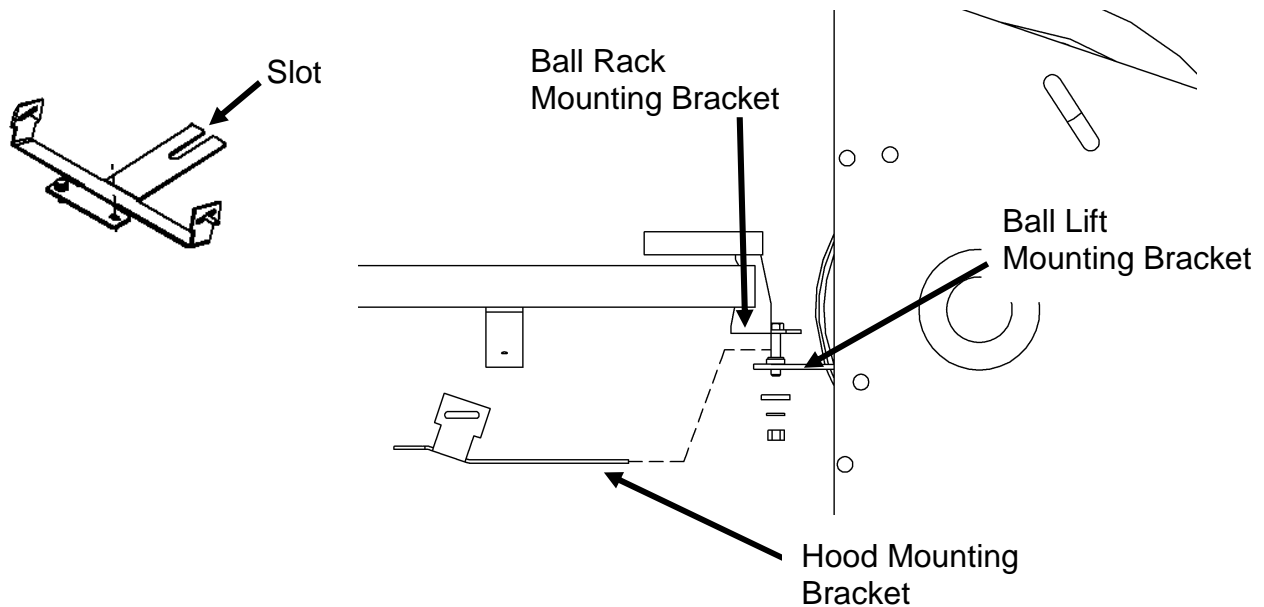

Figure 11, Ball Lift to Ball Rack to Hood Attachment
15. Insert the access panel so the slot of the mounting bracket (252-002-104) straddles the hex cap screw/stud, so that the bracket is **under** the mounting bracket of the ball rack (and any washers), and **above** the grommet bushing of the ball lift mounting bracket, as shown in Figure 11.